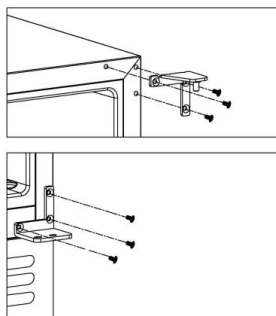

Figure 3
- Screw top right hinge ④ & right lower hinge ② off from the cabinet ⑥ and keep them in the polybag for needs if you want to change back left opening door in the future.[Figure 3].
3. Unscrew the three screws ⑧ and remove the top right hinge ⑦. Install the top left hinge ⑥ at the corresponding position in the top left corner of the box [Figure 3].